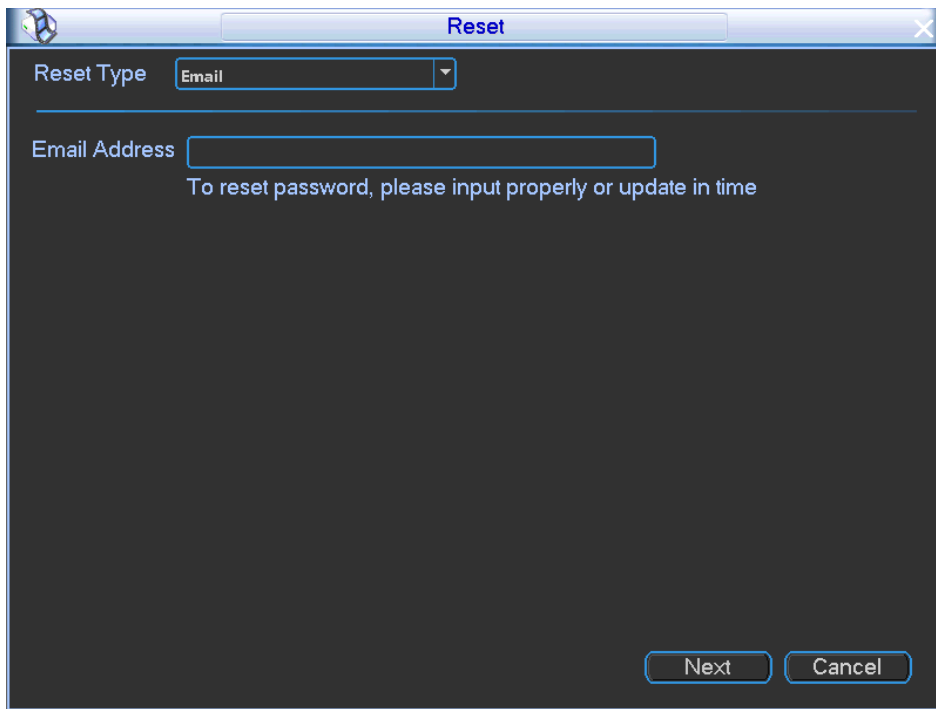
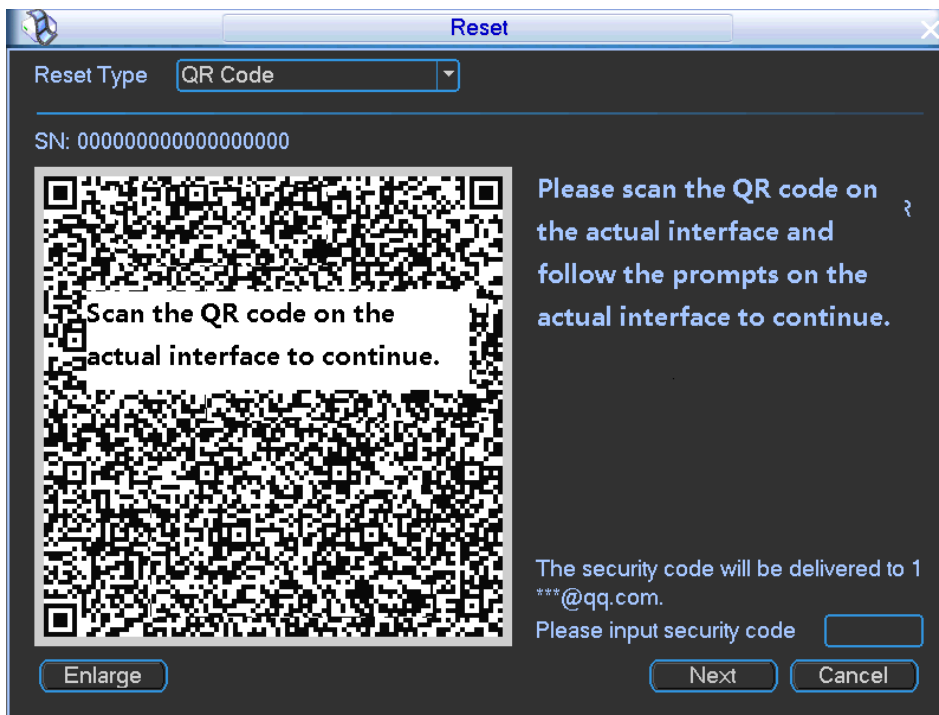

Figure 4-95
Figure 4-96
- If you have not input email address information when you are initializing the device, the interface is shown as in Figure 4-95. Please input an email address and then click Next button, devices goes to Figure 4-96.
- If you have input email when you are initializing the device, device goes to Figure 4-96.
In Figure 4-96, follow the prompts on the interface to scan the QR code, and then input the security code you get via the assigned email.
In Figure 4-95, select security question from the drop down list. Device displays security question interface. See Figure 4-97. Please input the correct answers here.